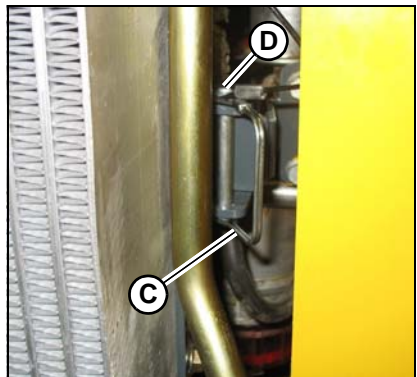

Figure 92 – Radiator Latch
- a. Pull down on spring pin lock (C, Figure 92) to release pin (D). Lift pin (D) out of the bracket.
- c. When engine maintenance is complete, return the radiator back to the closed position and secure it in place with pin (D). Lock pin (D) in the bracket with spring pin lock (C).